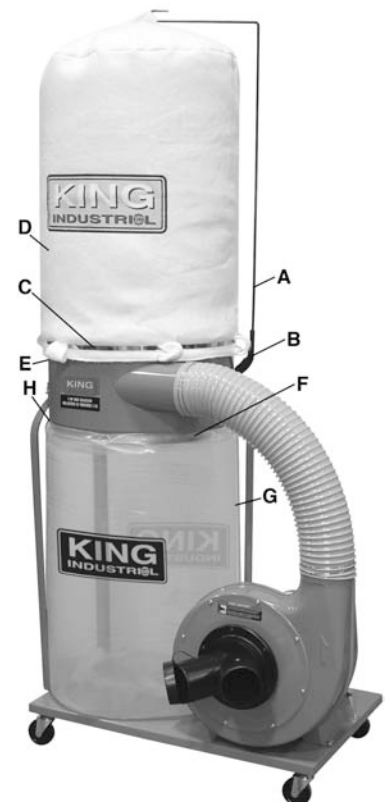

FIGURE 11
8. Insert bag hanger (A) Fig.11 into hanger bracket (B) and then hook the top dust bag to hanger. Insert retainer strap (C) through keeper straps of the top dust bag (D) and fasten to the upper lip of the main housing (E) (KC-3109C only).
9) Position the retainer strap (F) Fig.11 over the bottom transparent dust bag (G) and fasten to the lower lip of the main housing (H).